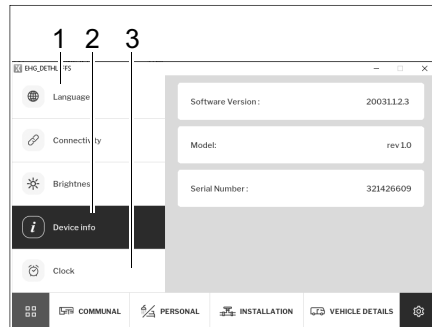

Fig. 281 Language, device information, time
- Click on the *Language* (Fig. 281,1) button and set the desired display language.
- Click on the *Time* (Fig. 281,3) button and set the time.
- Click on the *Device Information* (Fig. 281,2) button. Information on the device (software version, model and serial number) will be displayed.